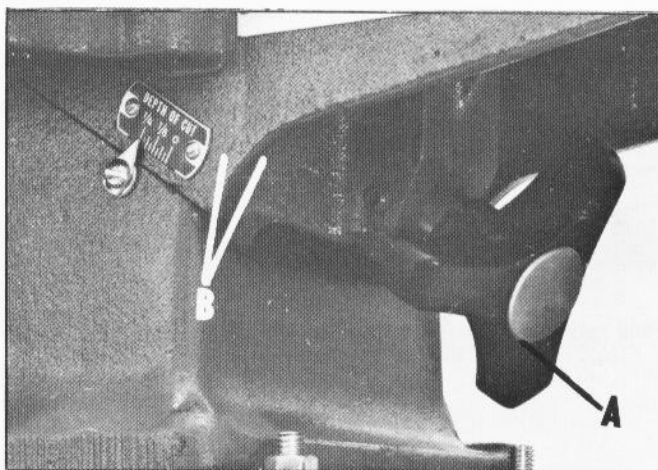

Fig. 22
To adjust for depth of cut, raise or lower the front table by turning the hand knob (A) Fig. 22. The pointer and scale (B) Fig. 22, indicates the amount the table has been raised or lowered.